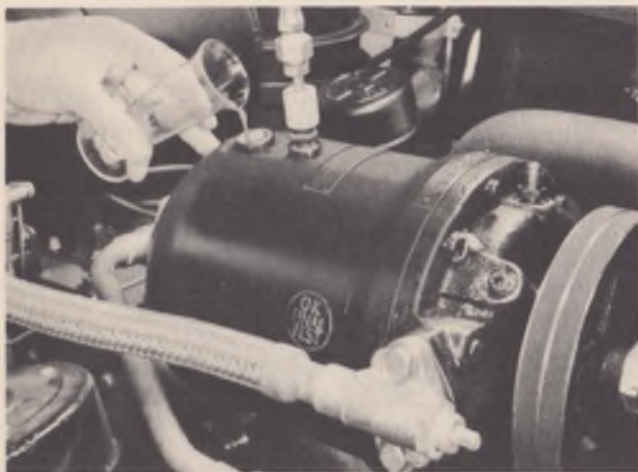

Fig. 14
4. Pour 4 ounces of 525 viscosity Frigidaire oil from a graduated bottle or container into the high pressure relief valve opening. See Figure 14.